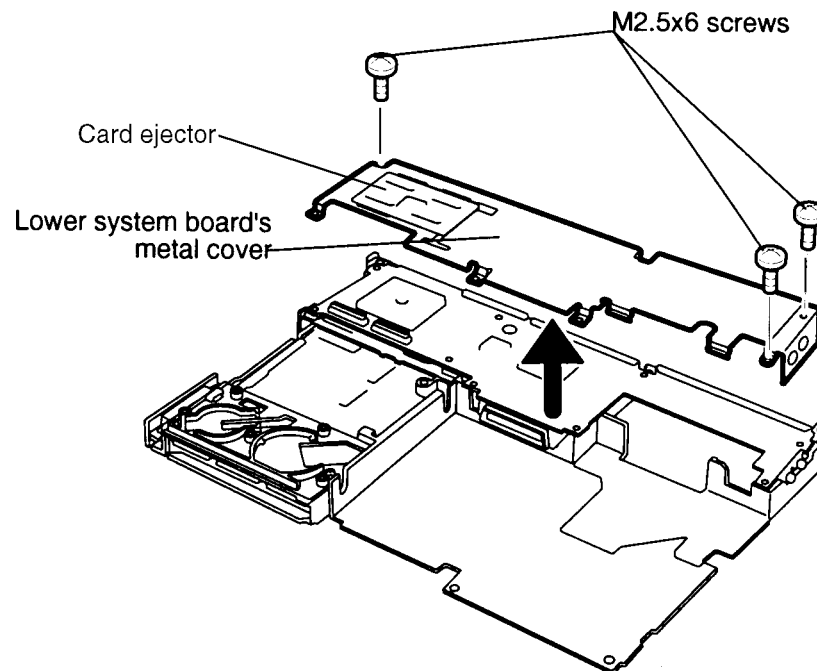

Figure 4-39 Removing the lower system board's metal cover
4. Lift off the **card ejector** (Figure 4-39).
5. Remove **three M2.5x6 screws** securing the **lower system board's metal cover**, then lift it off the lower system board (Figure 4-39). Be careful to clear the two audio ports projecting slightly through holes in the cover on the right.
3. Set the **lower system board's metal cover** in place. Be sure the two audio ports extend through holes in the cover (Figure 4-39).
4. Secure the **lower system board's metal cover** with three M2.5x6 screws (Figure 4-39).
5. Place the **card ejector** on the metal cover (Figure 4-39).